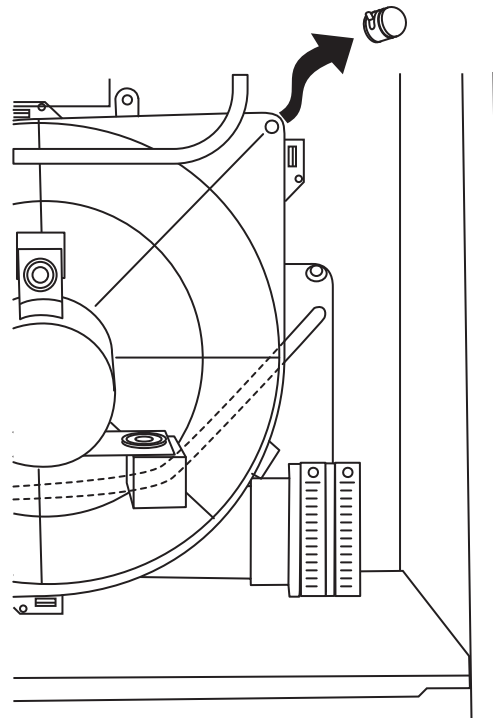

Fig. 32 - Drain Connection Cap
- Remove upper inducer housing drain connection cap. (See Fig. 32.)